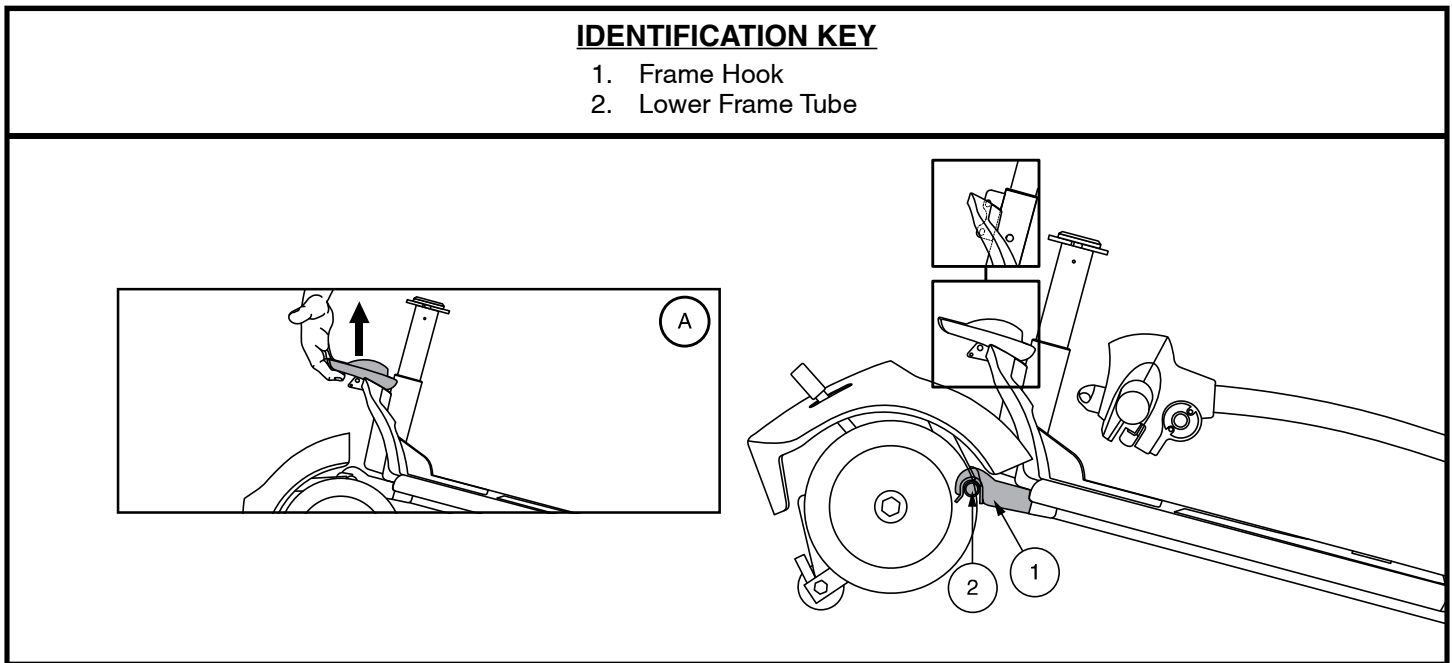

Figure 19. Frame Release Lever (Style A)
3. Slowly separate the two sections of the vehicle. See **figure 19**.
1. Use the frame release lever to lift the front section as you align the frame hooks of the front section with the lower frame tube of the rear section. See **figure 19**.
2. Once the frame hooks are over the lower frame tube, lower the front section and pivot the rear section simultaneously. This will engage the frame lock-up automatically. See **figure 19**.